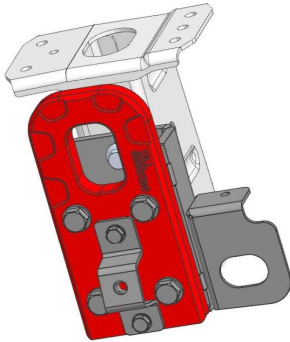

Fig.57
57. Similarly install on the right side of vehicle (fig.57).